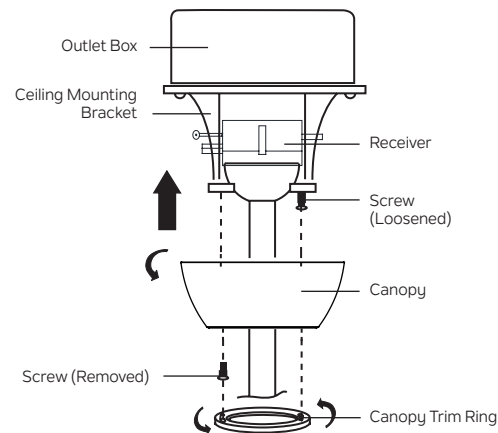

Fig. 14
Step 2. Carefully raise the canopy up to the ceiling mounting bracket and place the keyhole slot in the canopy over the screw head on the ceiling mounting bracket. Rotate the canopy until it locks in place against the screw at the narrow section of the keyhole slot. **(Fig. 14)**
NOTE: Adjust the screws as necessary until the canopy and canopy trim ring are snug. **(Fig. 14)**